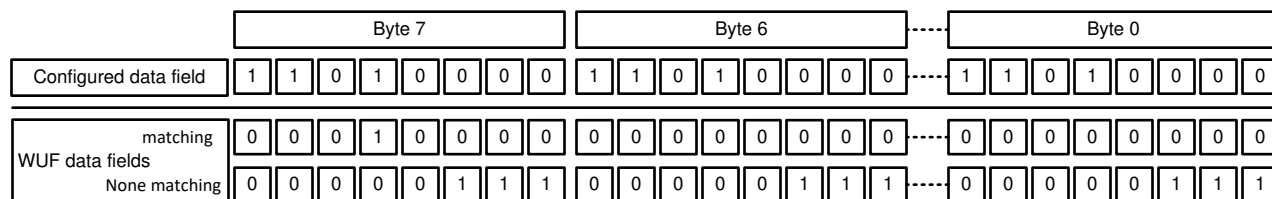

Figure 8-25. Data Field Validation for WUF Example
When the Data mask is enabled via the data mask bit, the data of the received frame must match the configured Data where at least one logic high (1) bit within the data field of the received frame matches a logic high (1) of the data field within the configured data. The relevant bit positions are determined by the configured Data in 8'h39 through 8'h40 and enabled by Data mask enable in 8'h38[0]. An example of a matching and non-matching Data is shown in Figure 8-25